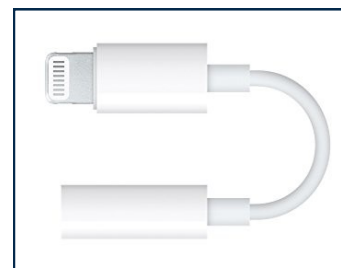

Fig 2
*Please note that for **Apple iPhone 5** and above, a 'Lightning Adaptor' (Fig 2) is required.